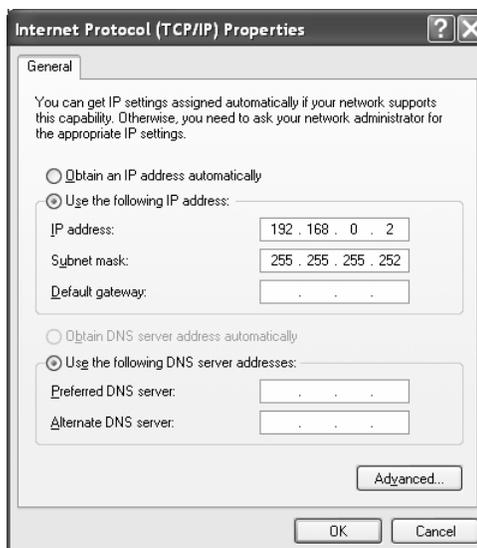

Figure 120: Internet Protocol Properties
5. Select Internet Protocol (TCP/IP) and click **Properties**. See Figure 120.